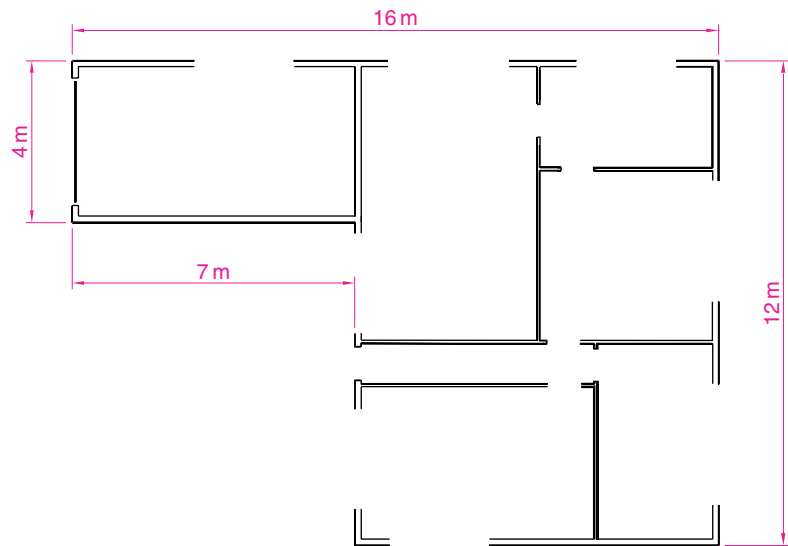

Fig. 9.5 First example – inserting blocks. Outline plan
Ensuring that all the symbols saved as blocks using the **Make Block** tool are saved in the data of the drawing in which the symbols were constructed, erase the drawings of the symbols and in their place construct the outline of the plan of a bungalow to a scale of 1:50 (Fig. 9.5). Then:
3. With the outline plan (Fig. 9.5) on screen the symbols can all be *dragged* into position from the **DesignCenter**.